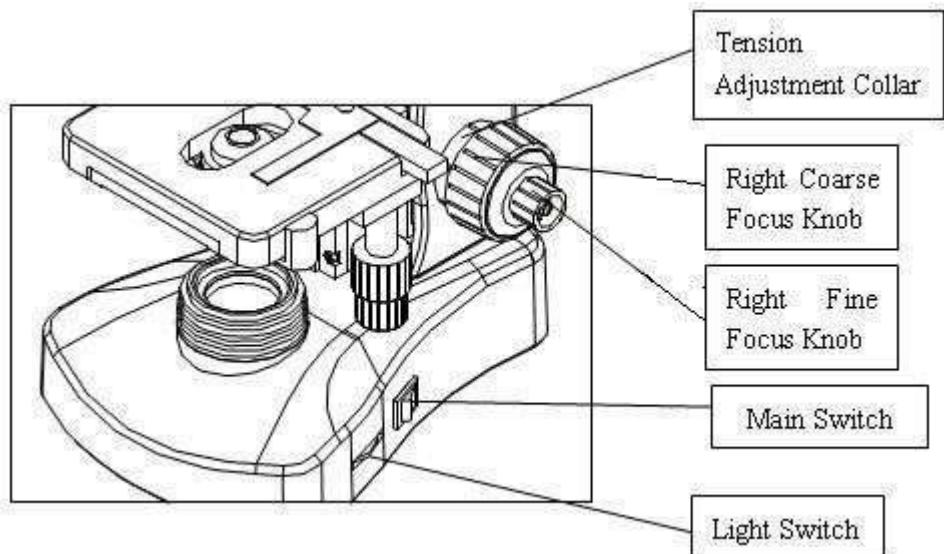

Fig. 15
1. Connect the power, turn on the main switch ① (figures 15). to “-” (on).
2. Turning the brightness adjustment knob ② anticlockwise, the voltage rises, and the brightness strengthen; turning it clockwise, the voltage decline, and the brightness weakens.